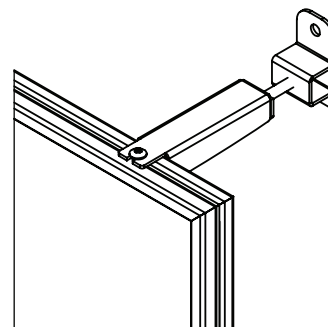

Figure 1
1. Align corner supports within 3" of each screen corner, but do not attach at this time. Figure 1.